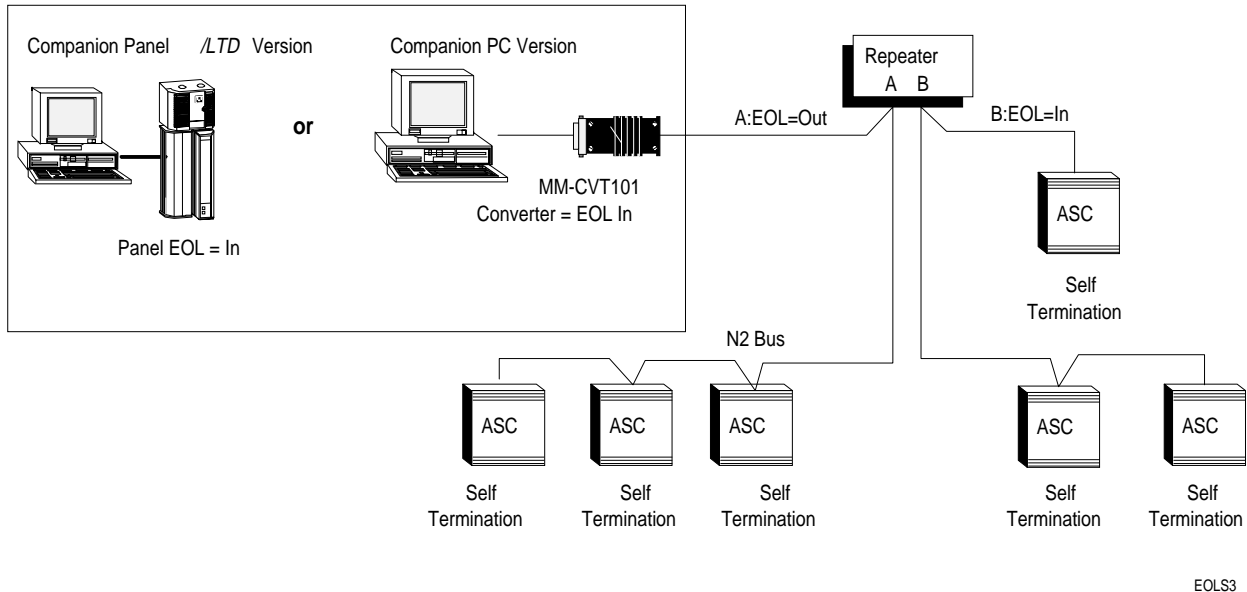

Figure 20: Example Three: Repeater Used on N2 Bus
Example Three (Figure 20)
In the third example (Figure 20), a repeater is placed near the middle of the N2 Bus. Side A of the repeater has its EOL set to Out, but side B has its EOL set to In, since its segment needs a jumpered EOL. Also, the Companion PC or Panel/*LTD* has its EOL jumpers set to In.
3. Connect the DMM (without a 100K ohm resistor) across the N2+ and REF inputs on the N2 terminal block of the Companion/NCU (Figures 20 and 21). Write down the DC voltage reading. Repeat for N2- and REF, then for N2+ and N2-. Compare the voltages you read on the DMM to the following values: